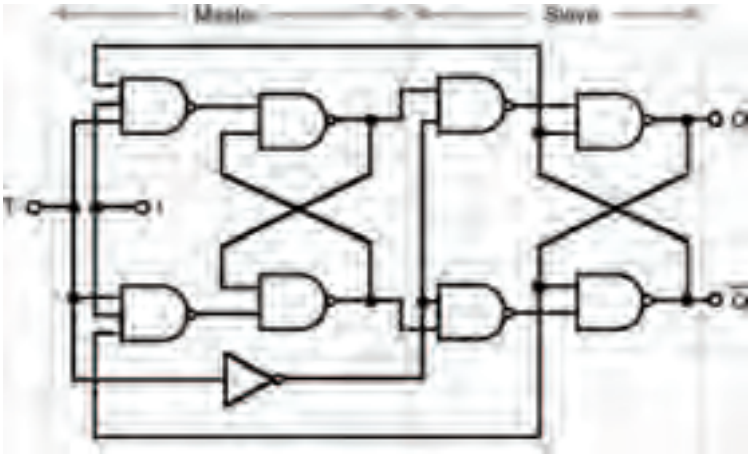

Figure 11.12 A T-type bistable
One particular mode of operation of the JK-type bistable is of importance here. If both J and K inputs are held at logic 1, the outputs of the master bistable will change state with each rising edge of the clock signal and the final outputs will change state for each falling edge. Such a fact is used as the basis of the T-type bistable (where T stands for ‘toggle’), shown in Figure 11.12. The lone T input of this circuit is really just the CLK inputs of other bistables.
- the last row of the function table shows a bistable operation known as toggling — in which the output state changes from whatever state it is, to the other state. This, you will of course remember — is how the T-type bistable of Figure 11.12 is created.